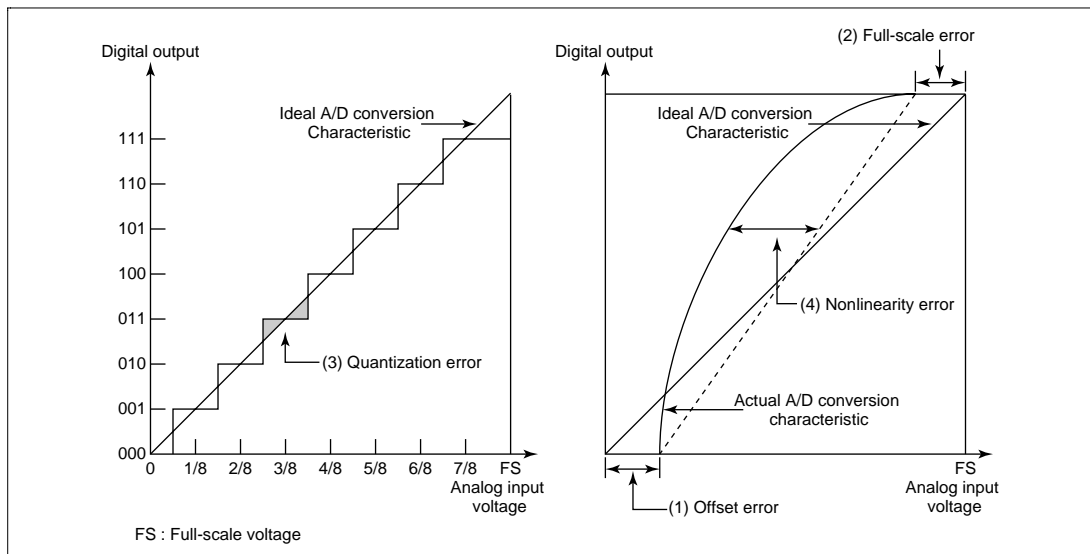

Figure 16.7 A/D Conversion Precision Definitions
- (1) Offset error
- (2) Full-scale error
- (3) Quantization error
- (4) Nonlinearity error
The above four kinds of error are described below with reference to figure 16.7. For the sake of clarity, this figure shows 3-bit medium-speed A/D conversion rather than 10-bit medium-speed A/D conversion. Offset error (see figure 16.7 (1)) is the deviation between the actual A/D conversion characteristic and the ideal A/D conversion characteristic when the digital output value changes from the minimum value (zero voltage) of 0000000000 (000 in the figure) to 0000000001 (001 in the figure). Full-scale error (see figure 16.7 (2)) is the deviation between the actual A/D conversion characteristic and the ideal A/D conversion characteristic when the digital output value changes from 1111111110 (110 in the figure) to the maximum value (full-scale voltage) of 1111111111 (111 in the figure). Quantization error is the deviation inherent in the medium-speed A/D converter, given by 1/2 LSB (see figure 16.7 (3)). Nonlinearity error is the deviation between the actual A/D conversion characteristic and the ideal A/D conversion characteristic from zero voltage to full-scale voltage (see figure 16.7 (4)). This does not include offset error, full-scale error, and quantization error.